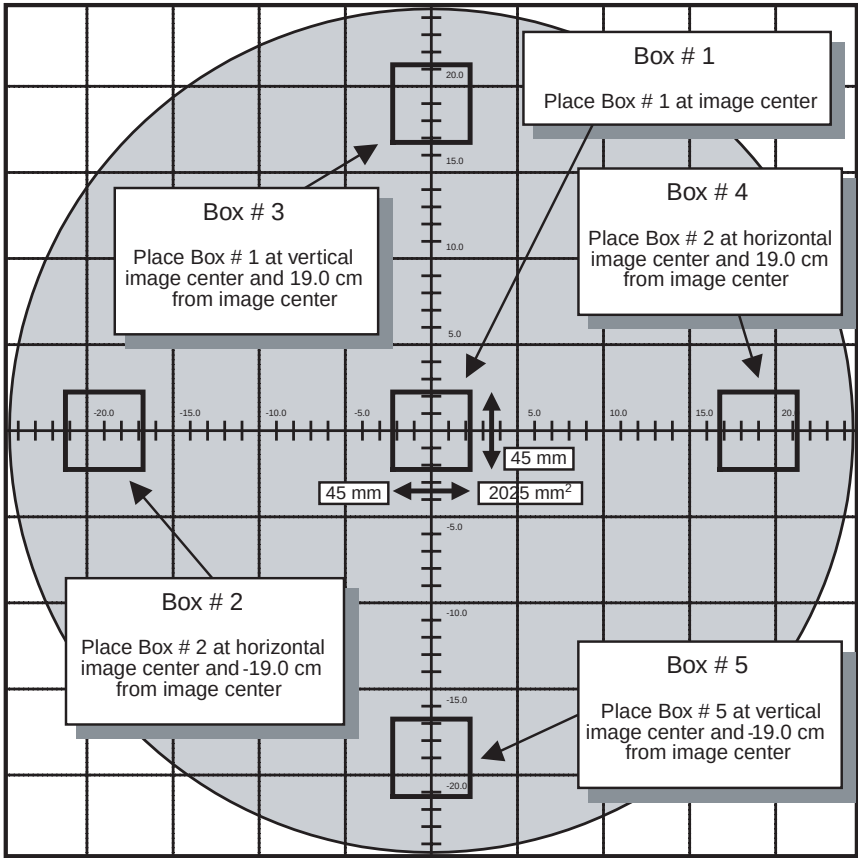

Figure 11-5 48cm Phantom Brightness Uniformity & Noise Measurement – Building Placing Reference ROI Boxes
If required, magnify the image to adjust to proper dimensions. See Figure 11-5 for additional ROI size and placement information.
If required, magnify the image to adjust to proper dimensions. See Figure 11-5 for additional ROI placement information.
- d.) Reposition Box # 2 to the left center portion on the first image (Box # 2 position in Figure 11-5).
- f.) Repeat steps 3.c. through 3.e. for each of the remaining ROI box positions shown in Figure 11-5 (Box # 3 through 5).